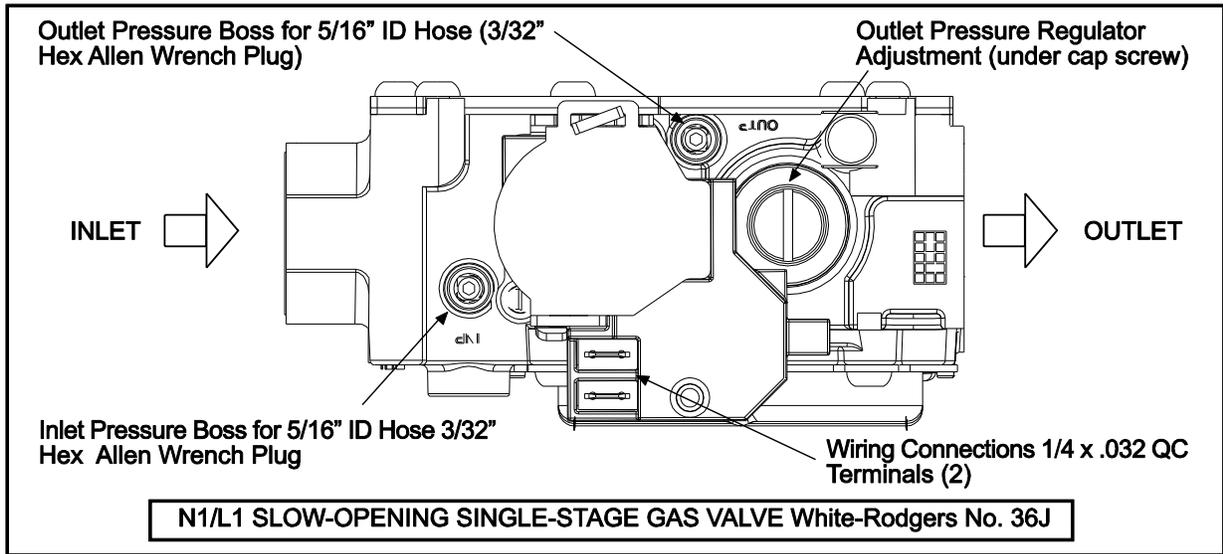

Figure 1
2. Turn the pressure test screw (3/32" Hex) in the center of the boss **not more than one turn counterclockwise**. Attach a 5/16" hose and manometer over the tapered outlet pressure boss on the valve (see **Figures 1** and **2** below). If regulator needs to be adjusted, see instructions below.
1. Turn on power and energize the main gas valve. Remove regulator cover screw (see **Figure 1** below). Turn regulator adjustment screw **clockwise** ⤴ to **increase pressure**, or **counterclockwise** ⤵ to decrease pressure. Replace regulator cover screw and tighten securely.